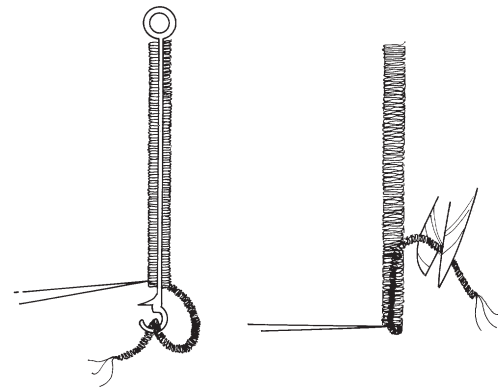

Fig. 20-5
- To use the other tools, reach through the serger-stitched seam, catch the thread chain ends, pull them through, and clip the ends of the chain. (Fig. 20-5)